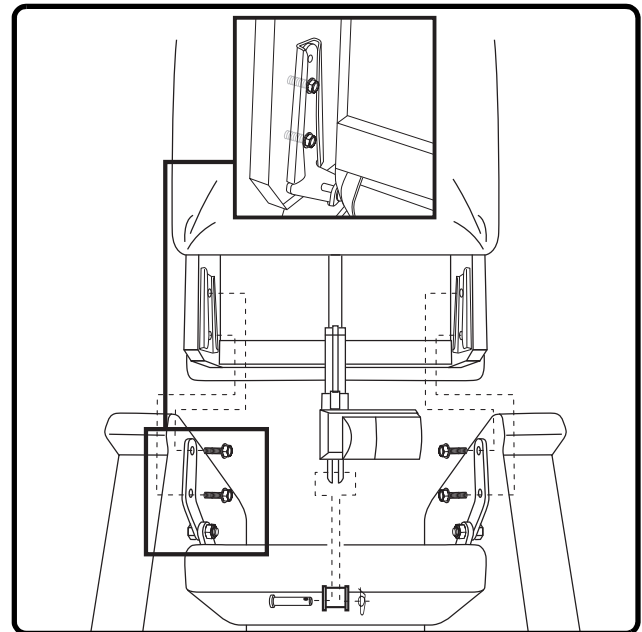

Figure 4.1 Lift Chair Assembly
2. With the pillow side of the chair-back and the lift chair armrests both facing the same forward position, slide the bracket of the chair-back over the bracket on the chair base, aligning the holes in both brackets. Insert the 4 bolts into the bracket holes (**Fig. 4.1**).